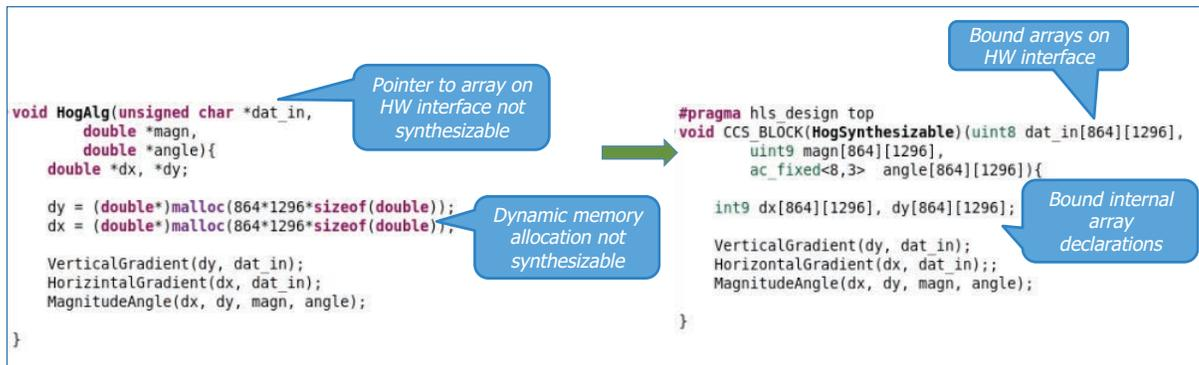

Figure 6: Using array bounds in code
- Catapult HLS needs to know array bounds for internal arrays and for block interface variables (Figure 6).